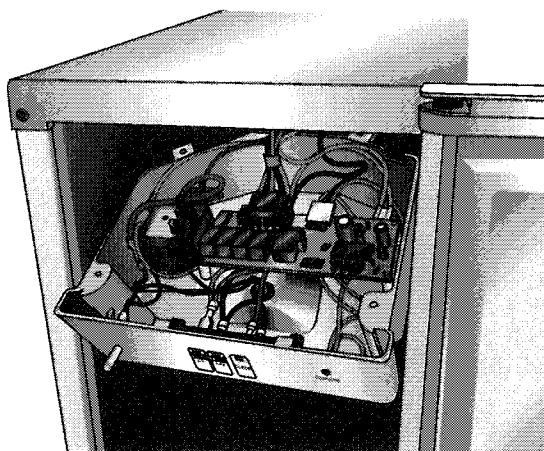

Fig. 3-6
6. The control box can now be lowered into the service position. (Fig. 3-6)